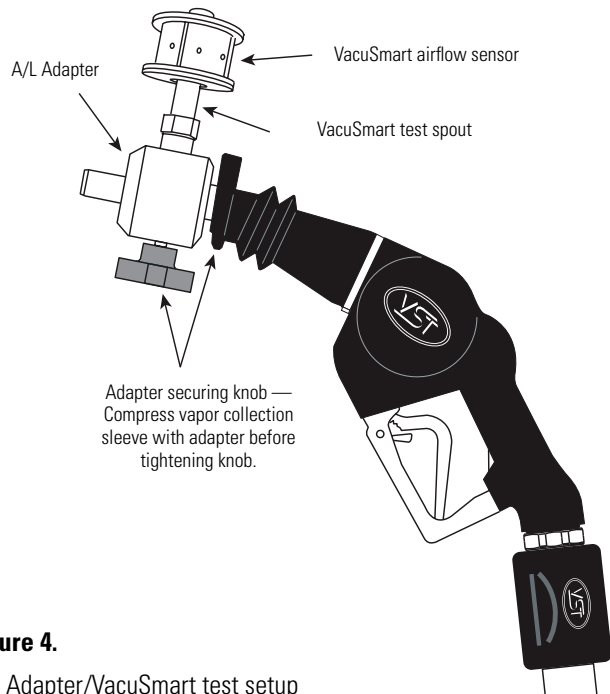

Figure 4.
4. Install the A/L nozzle test adapter with the VacuSmart test spout onto the spout of the VST ENVIRO-LOC ORVR vacuum assist nozzle. Make sure the back of the adapter is making good contact with the face seal and is compressing the vapor collection sleeve. (see Figure 4.)
5. Install the Airflow Sensor from the VacuSmart unit onto the special VacuSmart test spout. The holes in the test spout should be in between the elastomeric seals on the VacuSmart Airflow Sensor. (see Figure 4.)